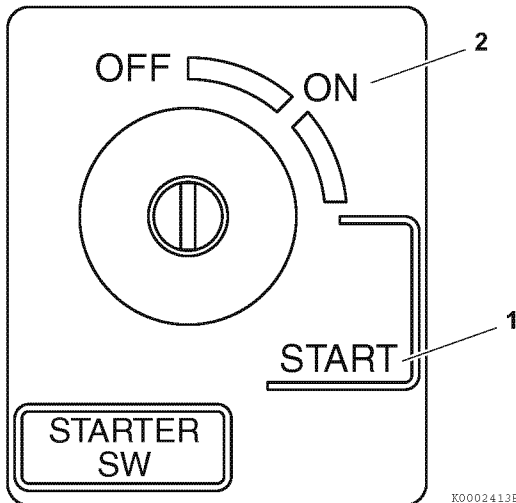

Figure 32
- Turn the key clockwise to the START position (1, **Figure 32**). Release the key as soon as the engine starts. It will return to the ON position (2, **Figure 32**).